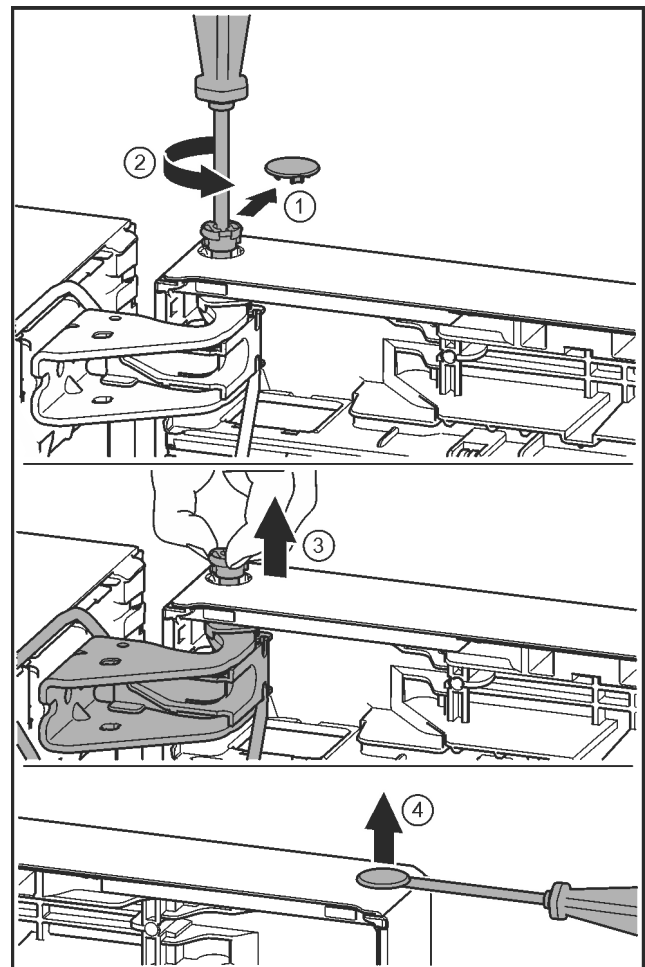

Fig. 21
- ▶ Carefully remove the protective cover. *Fig. 21 (1)*
- ▶ Undo the bolt a little with a T15 screwdriver. *Fig. 21 (2)*
- ▶ Hold the door and remove the bolts with your fingers. *Fig. 21 (3)*
- ▶ Carefully lift the plugs out of the door bearing bush with a slotted screwdriver and remove. *Fig. 21 (4)*